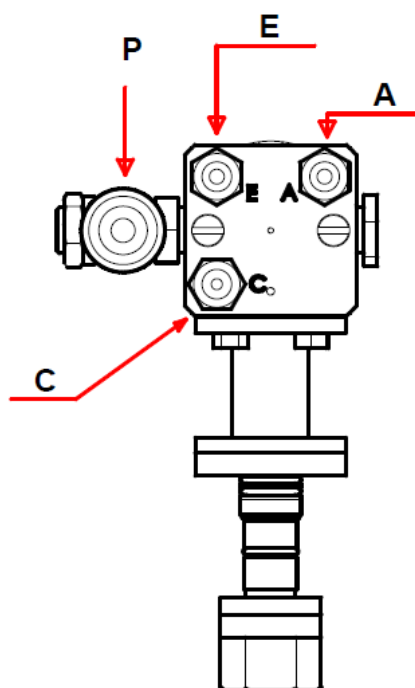

Fig 7
5. Adjust the Oil head Atomisation and Fan air pressures on the respective Pneumatic Control box regulators (see page 15 - Fig 7)